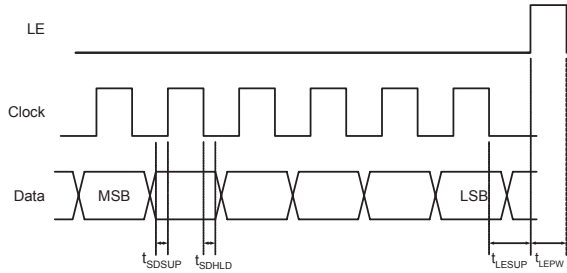

Figure 2. Serial Interface Timing Diagram
The serial interface is a 6-bit serial in, parallel-out shift register buffered by a transparent latch. It is controlled by three CMOS-compatible signals: Data, Clock, and Latch Enable (LE). The Data and Clock inputs allow data to be serially entered into the shift register, a process that is independent of the state of the LE input. The LE input controls the latch. When LE is HIGH, the latch is transparent and the contents of the serial shift register control the attenuator. When LE is brought LOW, data in the shift register is latched. The shift register should be loaded while LE is held LOW to prevent the attenuator value from changing as data is entered. The LE input should then be toggled HIGH and brought LOW again, latching the new data. The timing for this operation is defined by Figure 2 (Serial Interface Timing Diagram) and Table 3 (Serial Interface AC Characteristics).